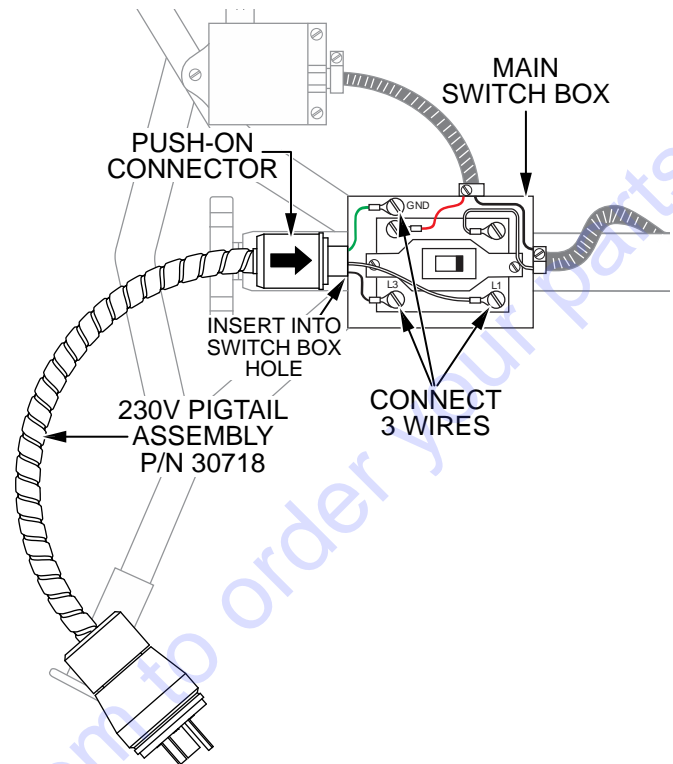

Figure 6. Install New Power Cable
- Connect the three pigtail assembly wires inside the main switch box as shown in Figure 6.
- Finish installing the 230V pigtail assembly (P/N 30718) by inserting the push-on liquid-tight connector into the open hole on the main switch box. Make sure the connector is fully seated in the hole. See Figure 6.